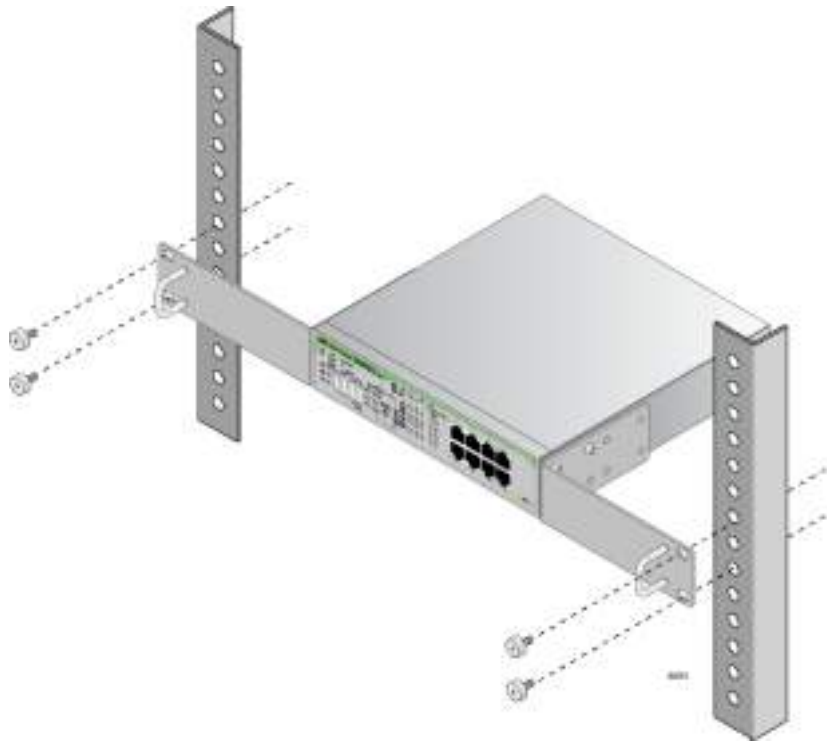

Figure 38. Mounting the Switch in an Equipment Rack
4. While another person holds the switch in the equipment rack, secure it with standard equipment rack screws as shown in Figure 38.